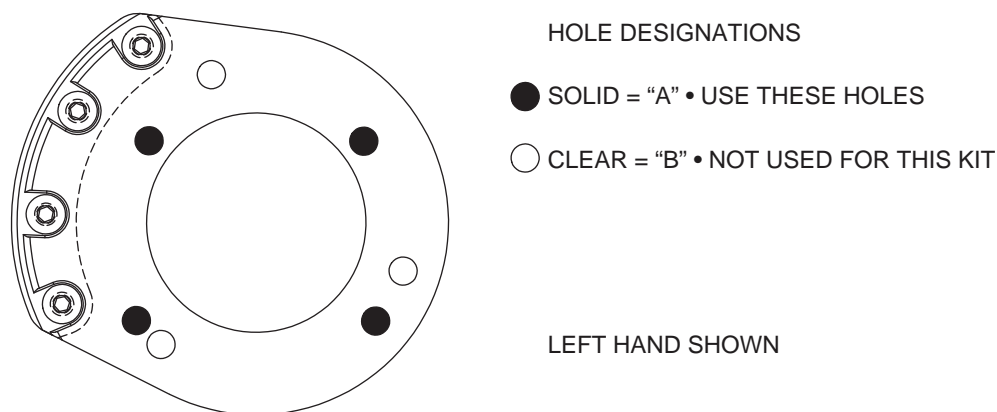

Figure 1. Wilwood Caliper Mounting Bracket
•**NOTE:** This kit uses a mounting bracket (1) with two bolt patterns in it. The four mounting bolt pattern (designated "A"), Photo 1 and Figure 1 should be used to mount this bracket kit. The three mounting bolt pattern (designated "B"), is not used with this kit. Refer to Figures 1 and 2 for the basic installation position of the bracket and the "A" and "B" reference designations (not physically marked on the brackets).